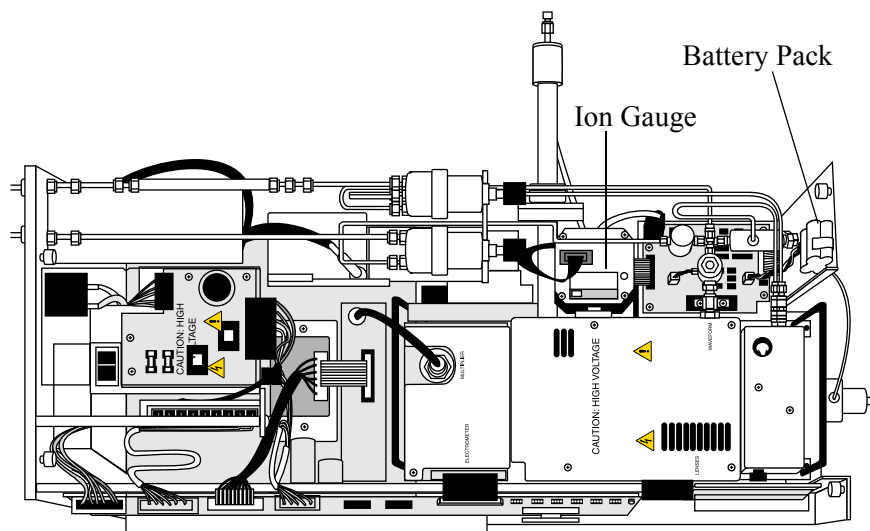

Figure 7-9. GCQ Plus with Top Cover Removed, Showing the Ion Gauge and Battery Pack
3. Remove the battery pack. See Figure 7-9 for the location of the battery pack.
4. Remove the two screws that hold the ion gauge collar to the vacuum manifold. See Figure 7-9 on page 7-21 for the location of the ion gauge. While holding the ion gauge, remove the whole flange collar. Tilt the ion gauge outward and remove it, taking care that the O-ring does not fall down into the instrument chassis. If you have to touch the O-ring, wear clean lint-free gloves.